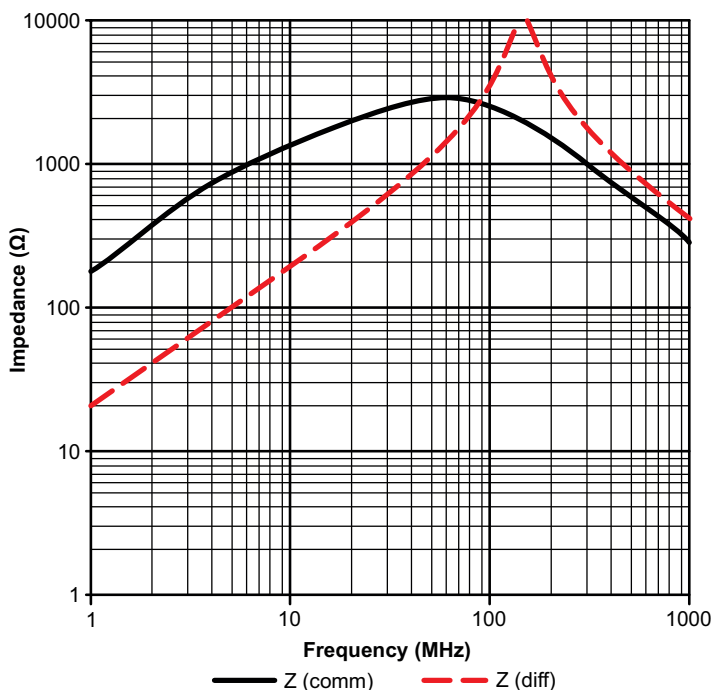

Figure 9: Common-Mode (CM) Choke Impedance
To address this problem, a common-mode inductor is required. This inductor is selected to present a high impedance around the FM region. An example of a common-mode (CM) choke with a high impedance around the FM region is shown below in Figure 9.